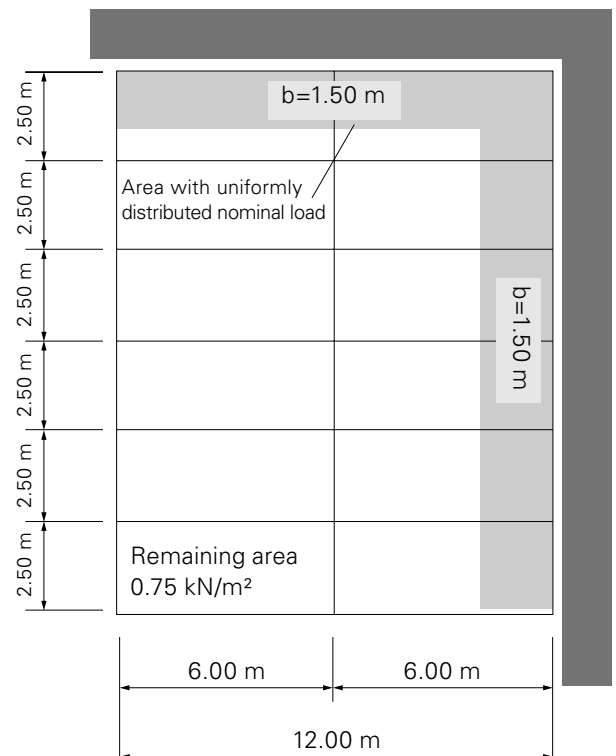

Fig. 03
- Work in the immediate area of enclosing walls: limitation of the uniformly distributed nominal load to a circumferential edge strip with a width $b = 1.50$ m. The remaining area must be taken into account with at least the loads of Load Class 1. (Fig. 03)